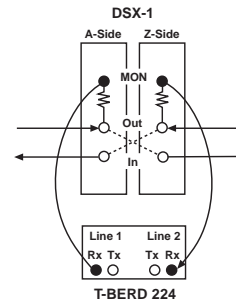

Figure 2
- 2 Connect a cable from the T-BERD 224's **LINE 2 RX** jack to the DSX-1 Z-Side MON jack (Figure 2).